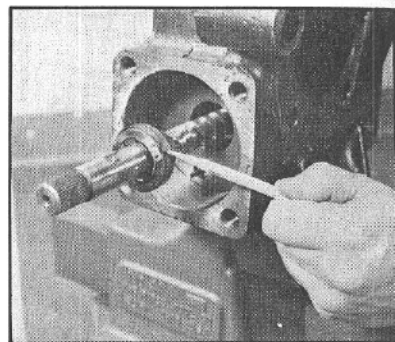

Figure 55
WARNING: DO NOT DISASSEMBLE THE WORM SHAFT/INPUT SHAFT (17), WHICH INCLUDES THE WORM SHAFT, INPUT SHAFT, TORSION BAR, TORSION BAR PINS, DRIVE RING AND DRIVE RING RETAINER. DO NOT UNBEND THE DRIVE RING RETAINER TANGS THAT HOLD THE DRIVE RING IN PLACE (FIG. 55). DOING EITHER WILL ALTER THE VALVE TIMING, WHICH COULD CAUSE THE VEHICLE TO PULL TO ONE SIDE OR THE OTHER.